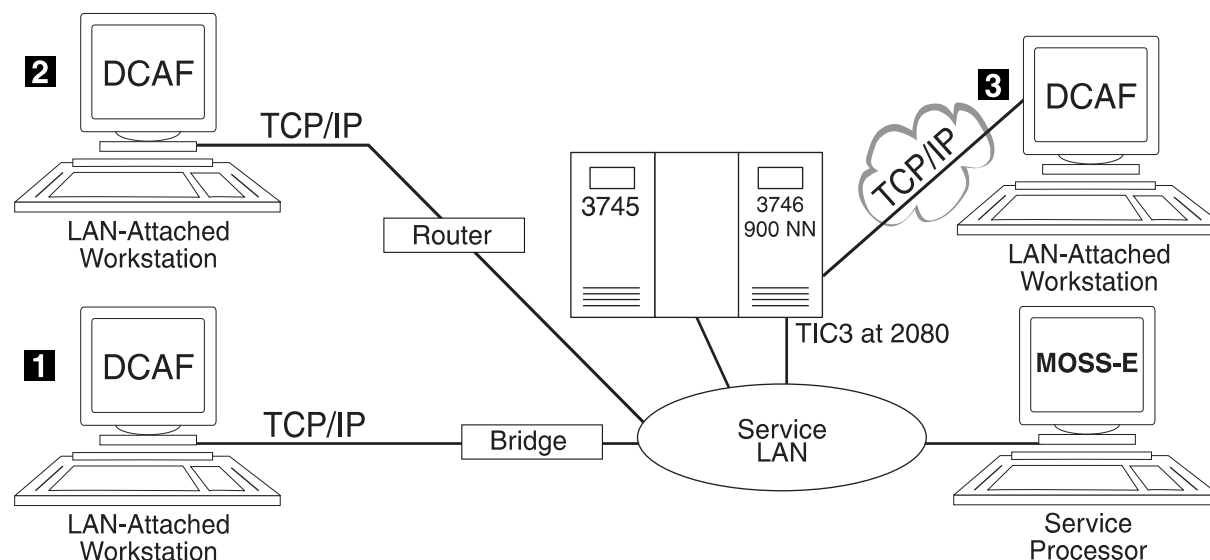

Figure 12-1. Types of TCP/IP Service LAN-Attached Remote Workstations
- A **bridge** with filtering to the service LAN (see **1** in Figure 12-1).
- A **non-3746** router (see **2** in Figure 12-1)
- The **3746** router (see **3** in Figure 12-1)
**Step 5.** Record the **Service Processor IP address** (this will be used in Step 7 on page 12-4). If you have a link through the 3746 (see **3** in Figure 12-1 on page 12-1), enter the **TIC3 2080** address in the **SP default router** field and click **Next** and **Close**.